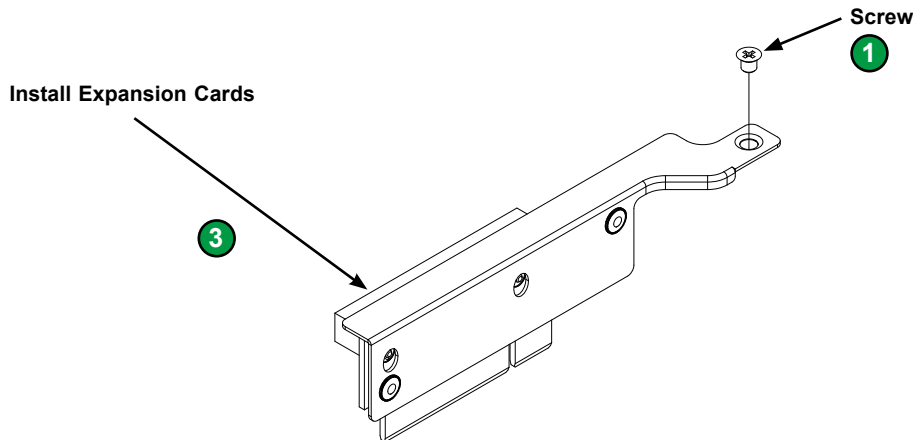

Figure 3-8. Removing the Riser Bracket
3. Remove the riser card bracket from the chassis by removing the screw indicated in Figure 3-8.